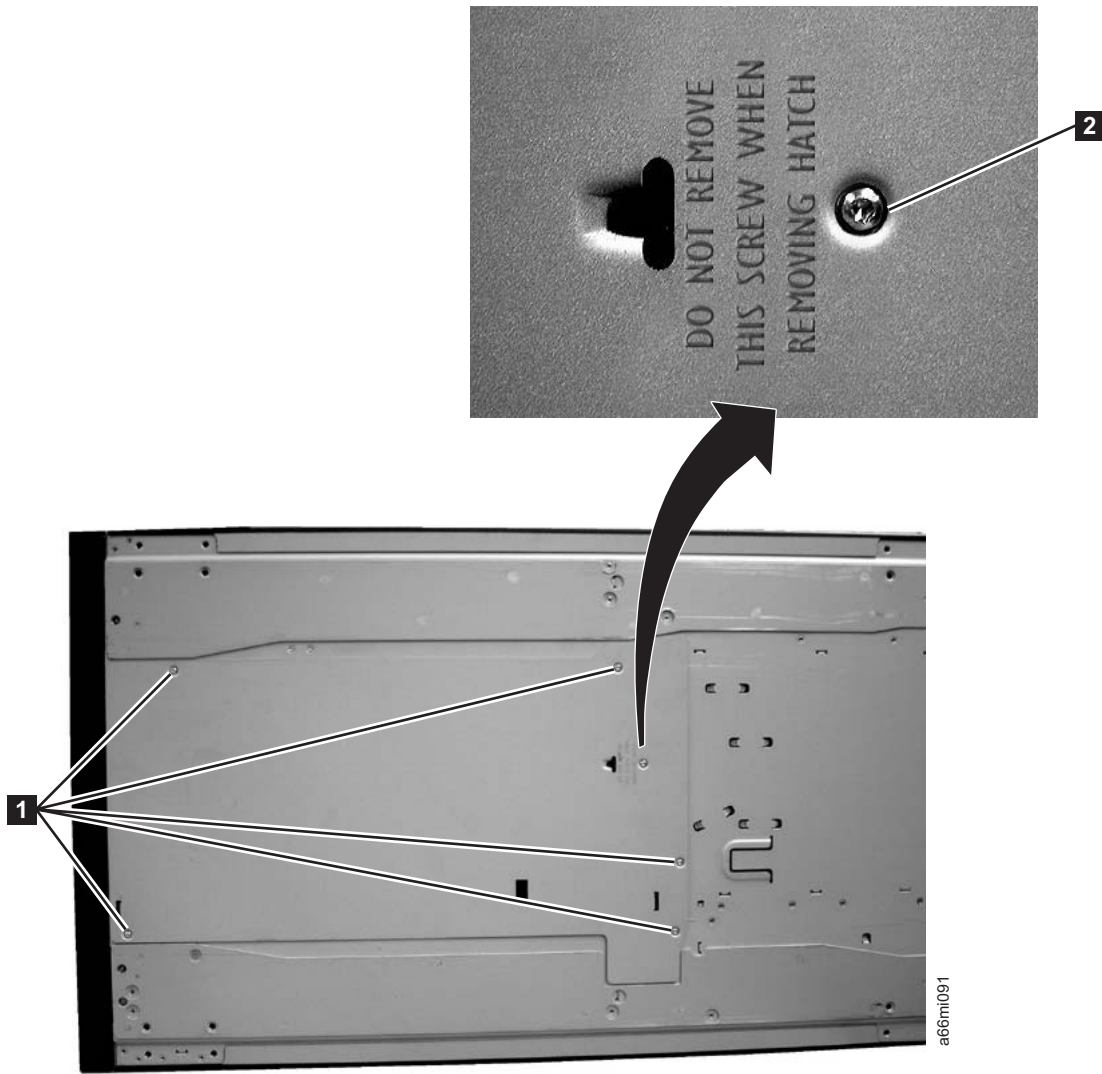

Figure 4-8. Bottom cover of the 5U control module
- | cover screws ( **1** in Figure 4-8 on page 4-10).
| in Figure 4-8 on page 4-10). This screw has the same T10 Torx head